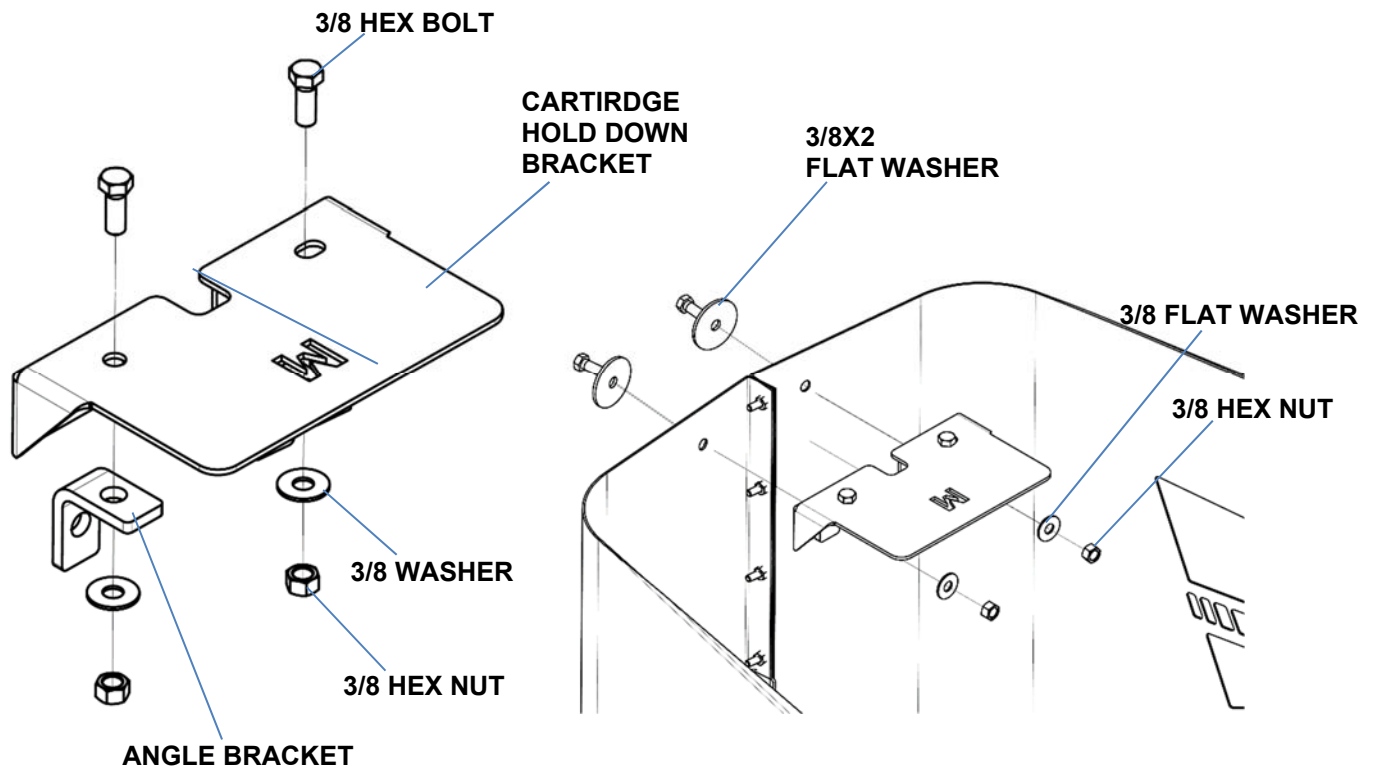

Figure 32
- C. Adjust Nose assembly height so top front Nose is 32 1/8 above concrete pad. Tighten all six (6) rail bolts and nuts.
- E. Assemble QuadGuard® M Cartridge Hold Down Bracket with 3/8X1 hex bolts, washers and nuts (Figure 32).